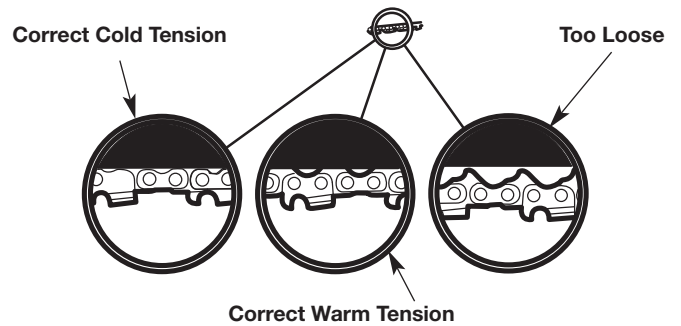

Fig. 31
The desired chain tension depends upon the temperature of the saw chain (Fig. 31).
- Cold Chain Tensioning - The saw chain should fit snugly against the underside of the guide bar. There should be no sag (Fig. 31).
- Warm Chain Tensioning - The saw chain will expand as it heats up during operation. The drive links should hang approximately 1/16 inch (1.3 mm) out of the guide bar groove (Fig. 31).